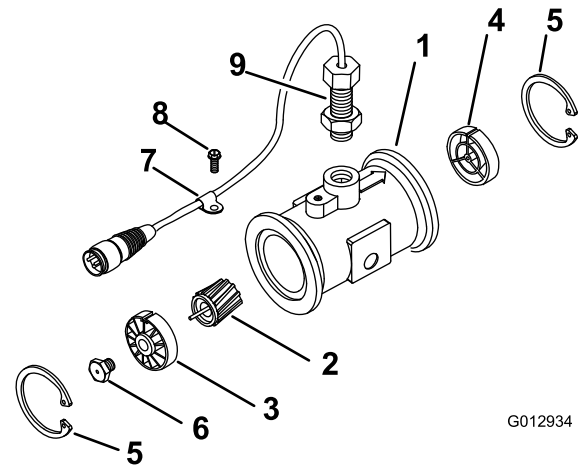

Figure 54
- Remove the retainer ring on the upstream side (Figure 54).